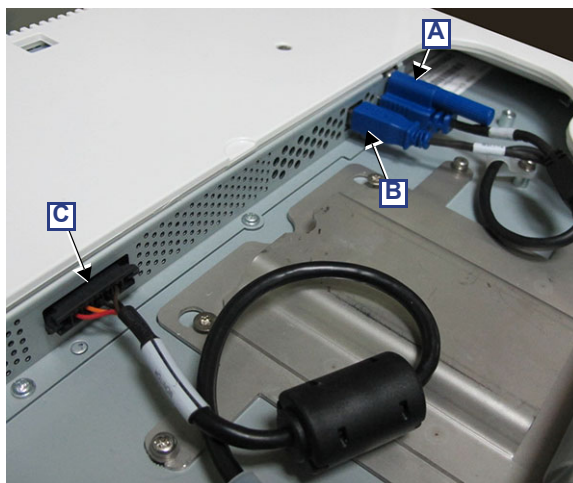

Figure 8-51 Reconnecting Monitor Cables
- 10) Reconnect the monitor cables (Figure 8-51):